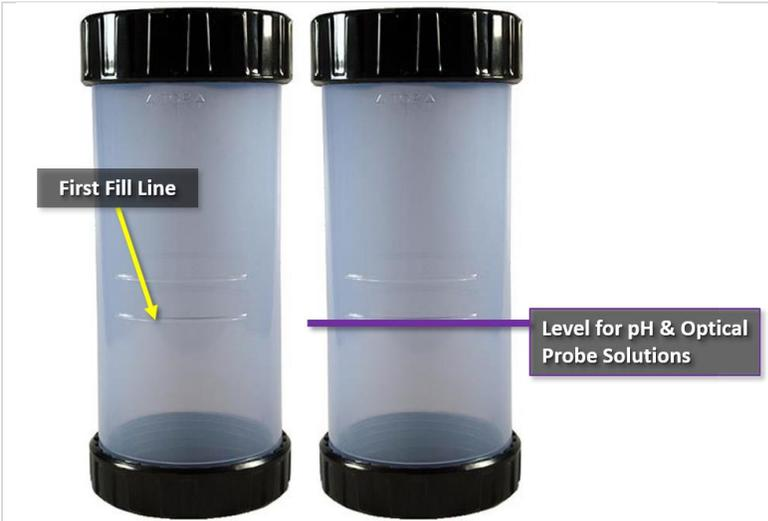

Figure 119. Fill the Calibration Cup with Buffer Solution to 1st Line
**STEP 3** | Triple rinse the calibration cup with the pH 7.00 buffer (first calibration solution) and then fill the calibration cup to the first fill line with this first solution standard (Figure 119).